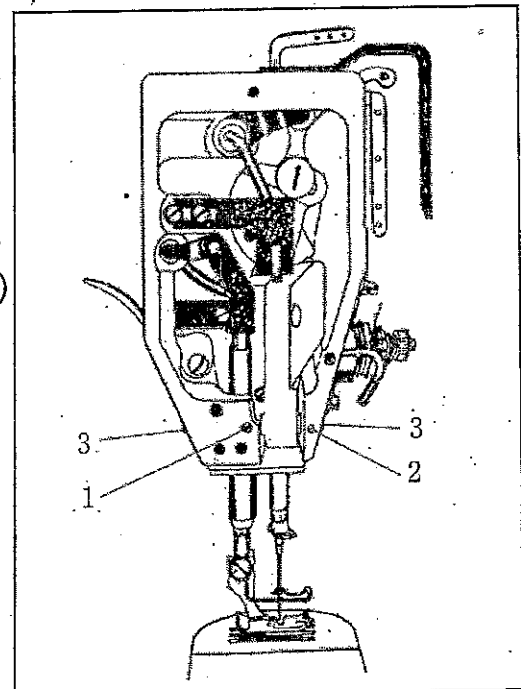

Fig.18
1) The needle punches longitudinally into the center of the needle plate slot position adjustment (Fig.18)